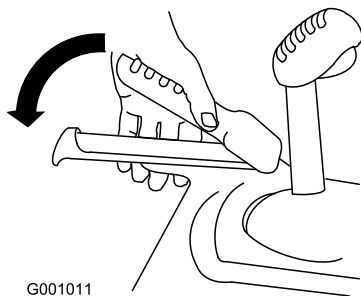

Figure 29
1. To engage the traction drive, squeeze the left hand (traction) lever to the hand-grip (Figure 29).